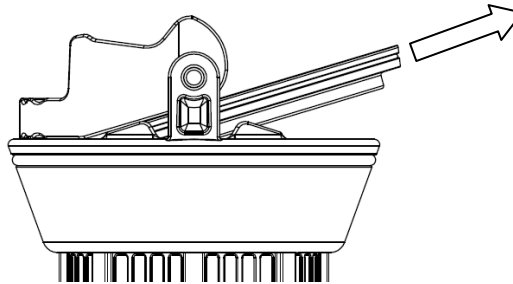

Fig. 8: Removal of bag ring from basket ring (side view)
- 2.1.1.3 Remove bag retention ring from basket assembly, by lifting the edge opposite the handle and pulling ring out at an approximately 20° angle. (See fig. 8.)
2.5.1.6 Remove bag retention ring from basket assembly, by lifting the edge opposite the handle and pulling ring out at an approximately 20° angle. (See fig. 8.)